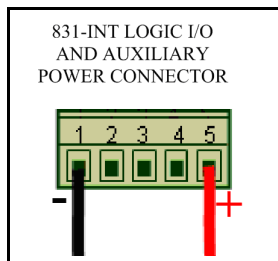

FIGURE B-3 PROPER POWER CONNECTIONS TO LOGIC I/O AND AUXILIARY POWER
- Verify that the CBL167 cable is connected to 831-INT's Logic I/O and Auxiliary Power; ensuring that power connections are correct (including polarity). *See Figure B-3.*
- Ensure the Raven gateway is powered correctly with its own cable to the 831-INT-ET's AUX POWER and Logic I/O port, with correct pins and polarities. *See Figure B-3.*